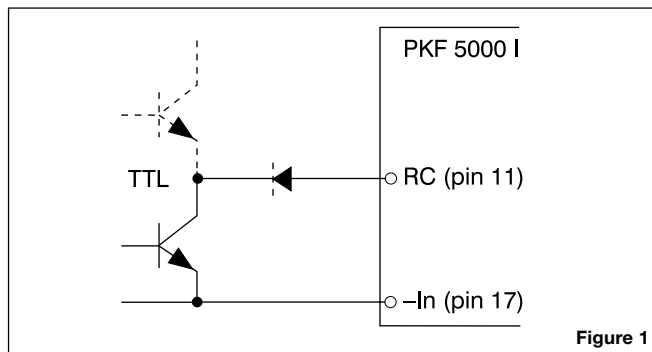

Figure 1
Turn-on or turn-off can be realized by using the RC-pin. If pin 11 is connected to pin 17 the power module turns off. Normal operation is achieved if pin 11 is open (NC) . To ensure safe turn-off the voltage difference between pin 11 and 17 shall be less than 2.0V. RC is an TTL open collector compatible output with a sink capacity >300 µA (see fig. 1).